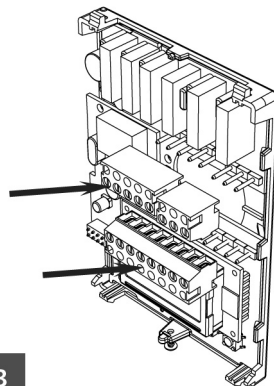

Fig. 3
11. Gently push excess wiring back into hole (fig. 3).
12. Re-Install wiring terminals in their correct locations (fig. 3).